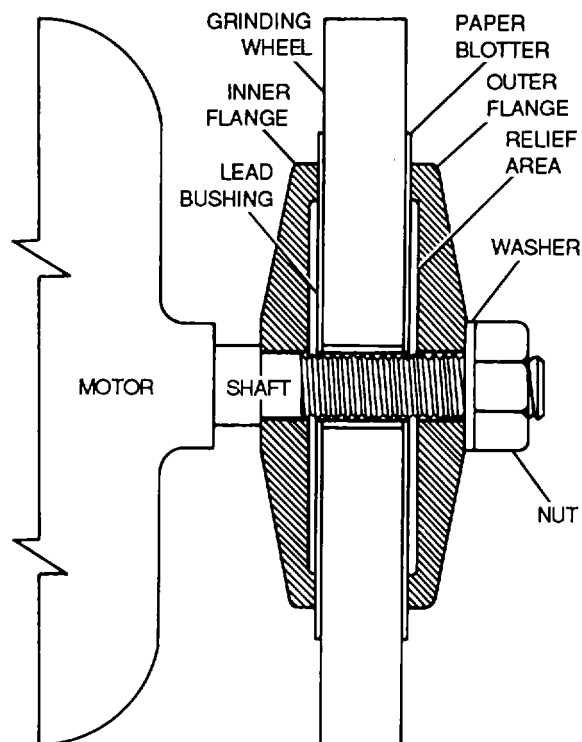

Figure 6-5. Grinding Wheel Installation
d. *Wheel Installation.* The wheel of a grinder must be properly installed. If it is not, the wheel may operate improperly, and an accident may occur. Install a grinder wheel as follows (see figure 6-5):